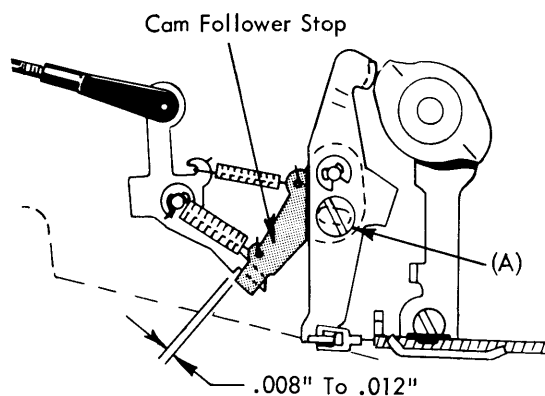

FIGURE 91. Cam Follower Adjusting Stop
11. Low Velocity Cam Follower Stop - With the cycle shaft latched at rest, adjust the stop for .008" to .012" clearance with the low velocity latch (Fig. 91). Loosen the binding screw "A" to make this adjustment.